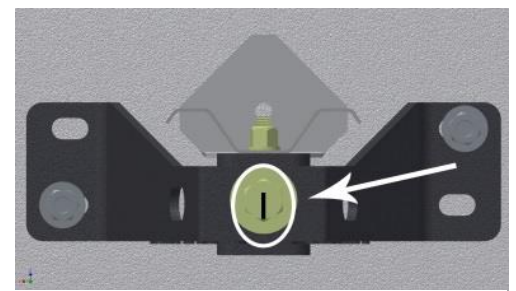

Figure 3: Place a line centered on top of bolt.
9. Using a marker, place a line the top of the bolt. **(Figure 3)**